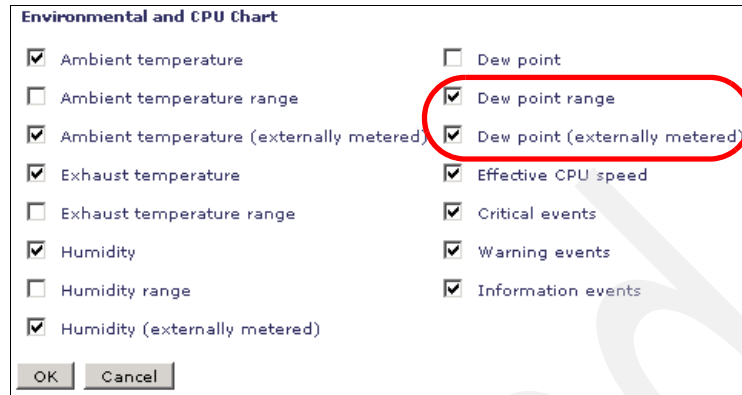

Figure 9-34 Environmental and CPU Chart section
- Select the “Dew point range” and “Dew point (externally metered)” options in the Environmental and CPU Chart section, as shown in Figure 9-34 on page 451. Then, click **OK** to continue.